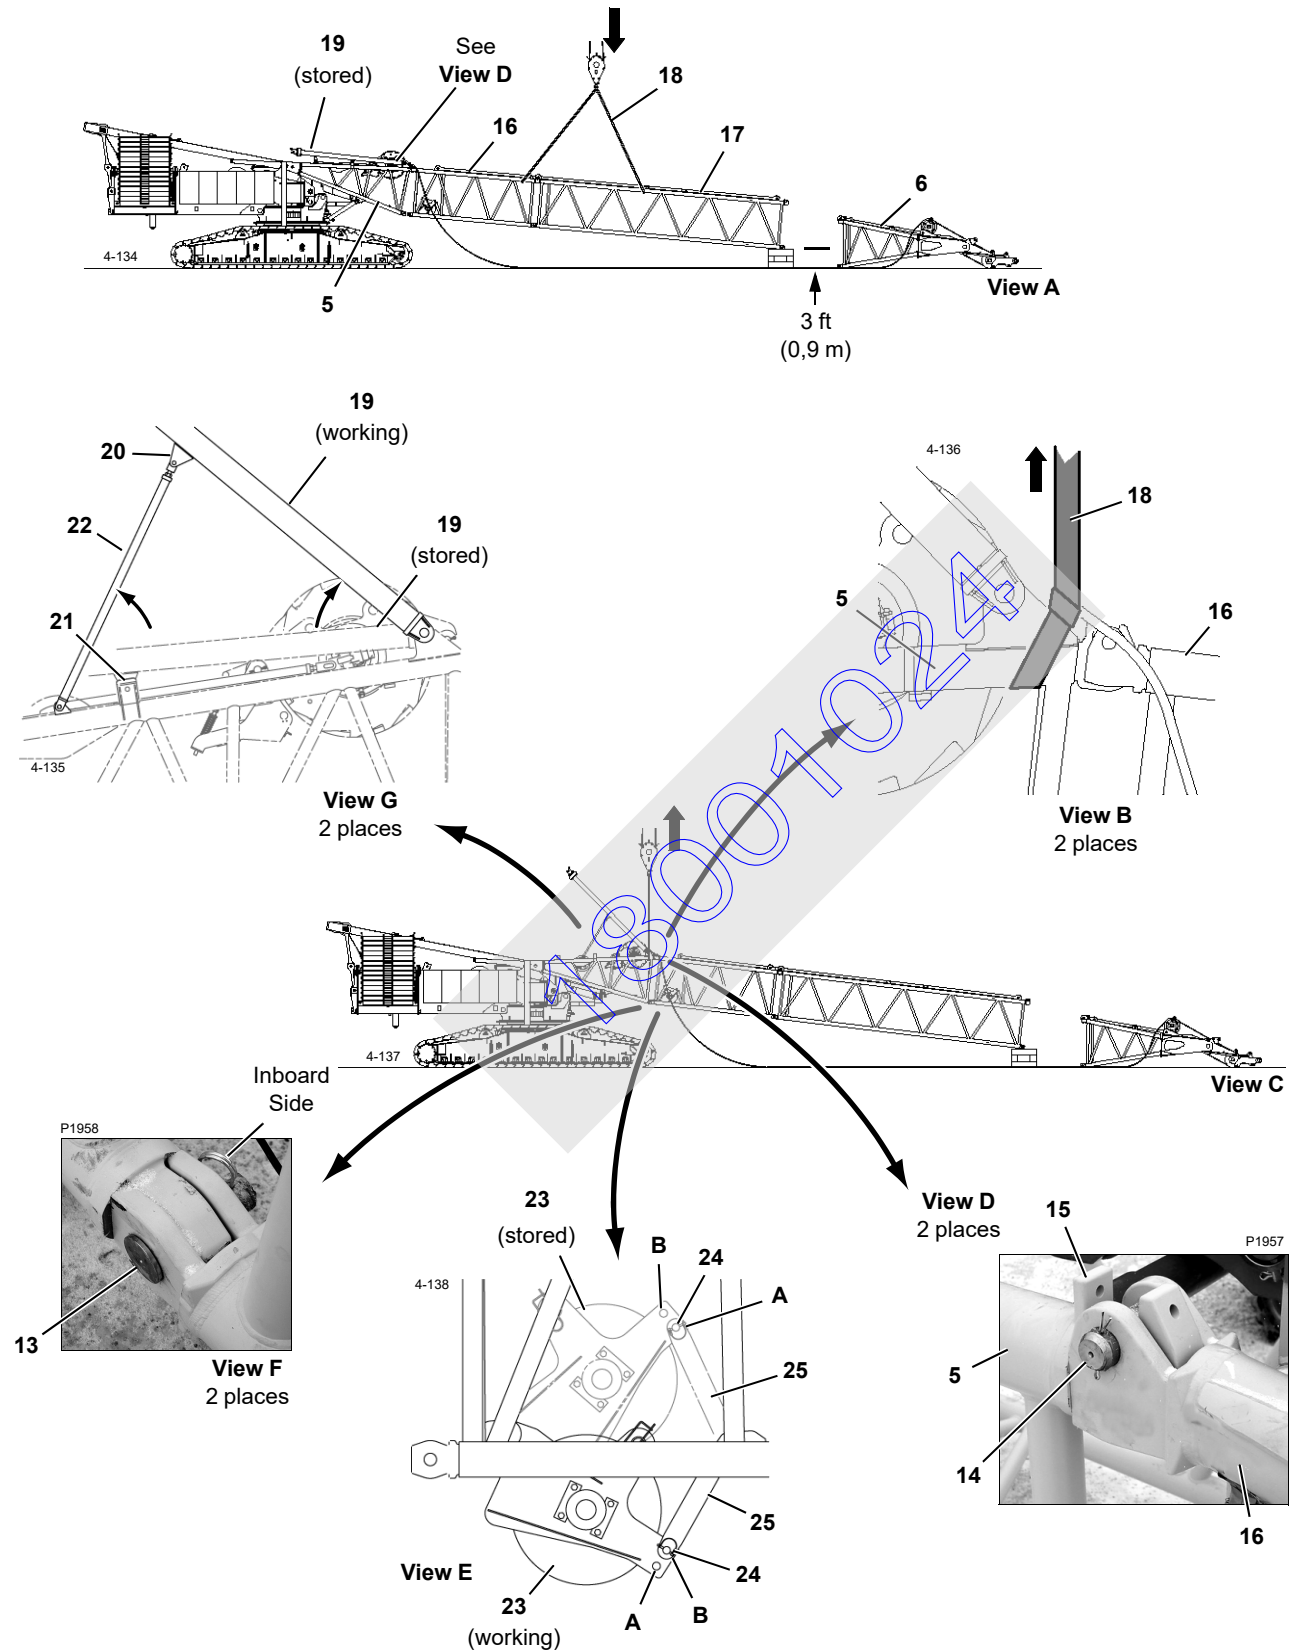

FIGURE 4-28
**Legend for Figure 4-28**
See Figure 4-28 for the following procedure.
See Figure 4-28, View G for the following procedure.
See Figure 4-28, View E for the following procedure.